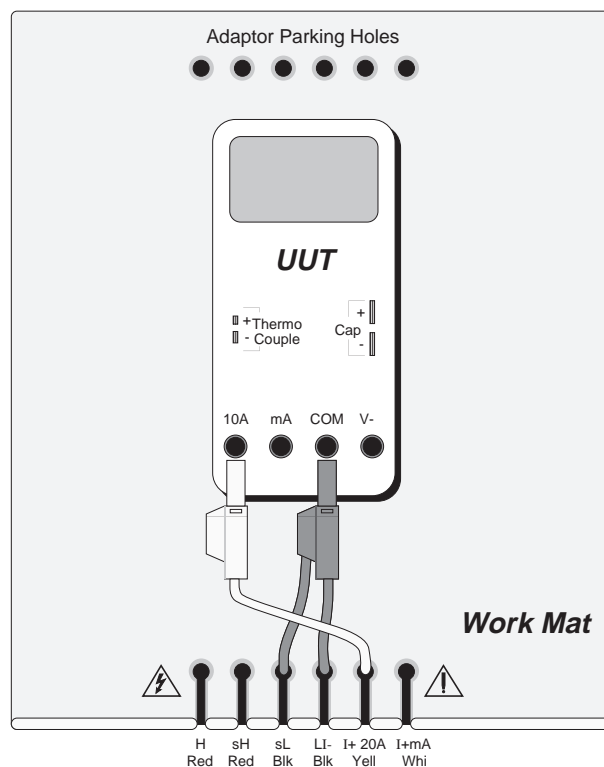
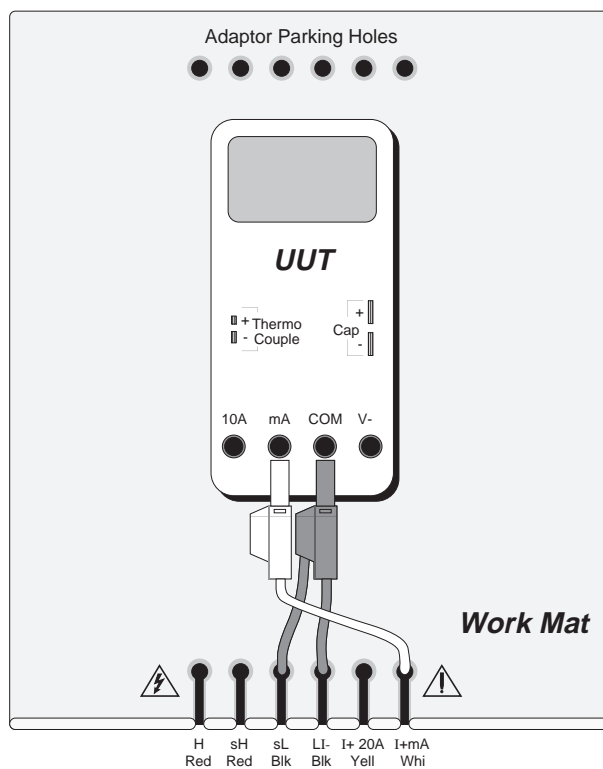
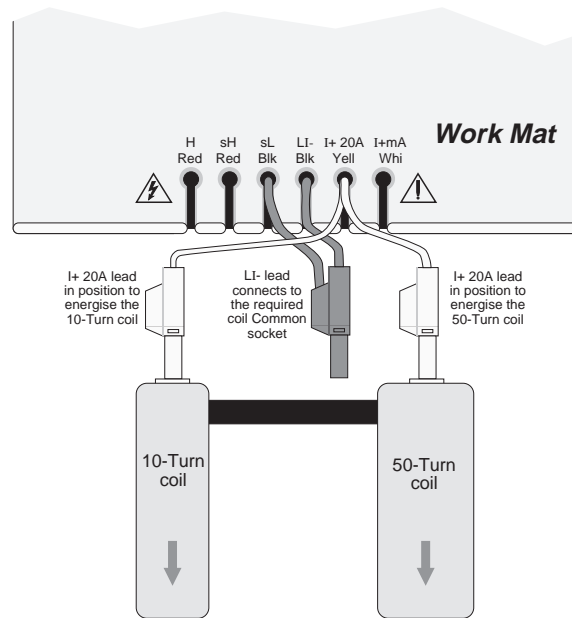

Fig. 6.1
Fig. 6.2
Fig. 6.3
The general connection schemes for UUT calibration of AC Current Function are illustrated in *Figs. 6.1, 6.2 and 6.3.*
Connect the 9100 to the UUT as shown in Fig. 6.1, 6.2 or 6.3/4/5 , and ensure that both instruments are powered ON and warmed up.
<ul style="list-style-type: none"> a. Use the front panel controls to set the 9100 Output to the UUT cal point frequency, current and output form (SELECT OUTPUT key). Reconnect (Fig 6.1, Fig 6.2, or Fig 6.3/4/5) as required. b. Select required waveform and phase-shift. 	3-8 to 21
Connect the 9100 to the UUT as shown in *Fig. 6.1, 6.2 or 6.3/4/5*, and ensure that both instruments are powered ON and warmed up.
a. Use the front panel controls to set the 9100 Output to the UUT cal point frequency, current and output form (SELECT OUTPUT key). Reconnect (*Fig 6.1, Fig 6.2, or Fig 6.3/4/5*) as required.